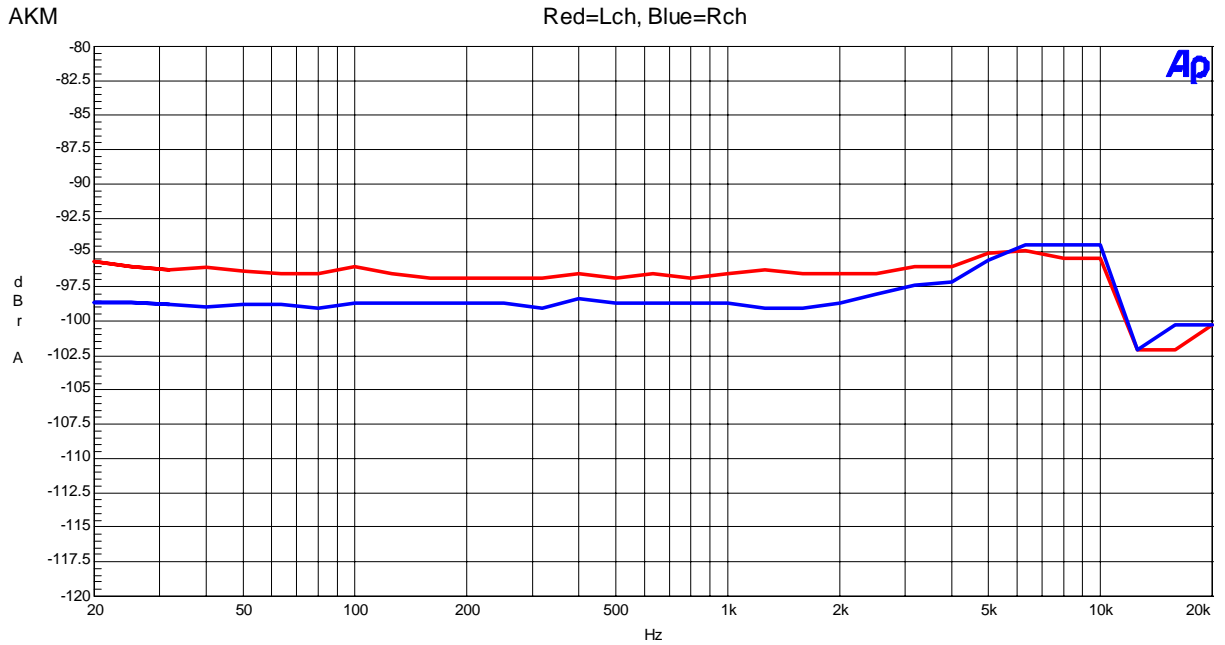

Figure 28 THD+N vs fin (Input level=0dBFS)
- Figure 28 THD+N vs fin (Input level=0dBFS)